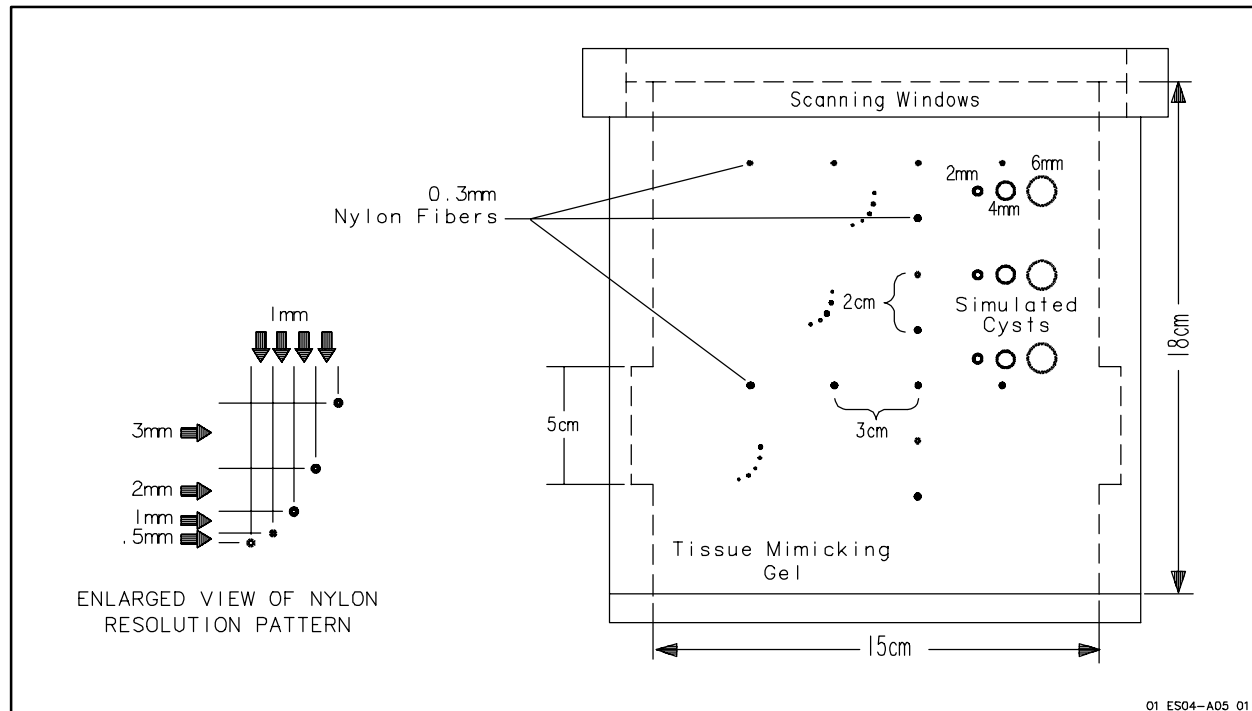

Figure 4-14. RM 413A Phantom Geometry
1. Measure axial resolution with the pin groups at 3, 7, and 12 cm depths on the phantom (see enlargement in Figure 4-14).